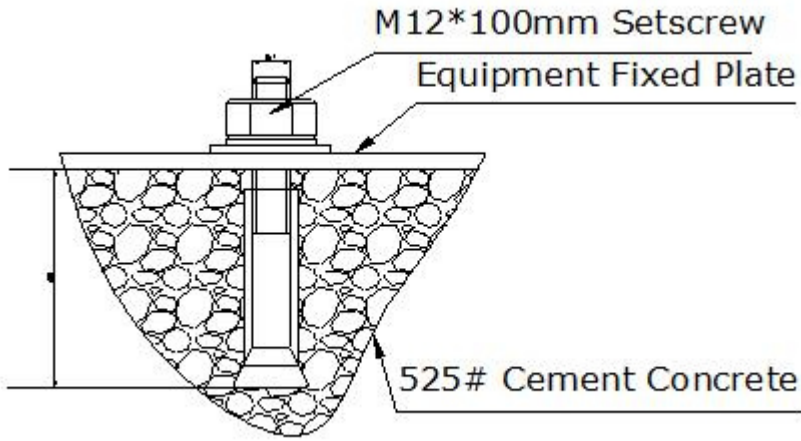

Figure 4. Ground Foot/Foundation Installation Diagram
- Install 4 × M12 ground screws or 4 × M12 expansion bolts at the designated locations, as shown in Figure 4.